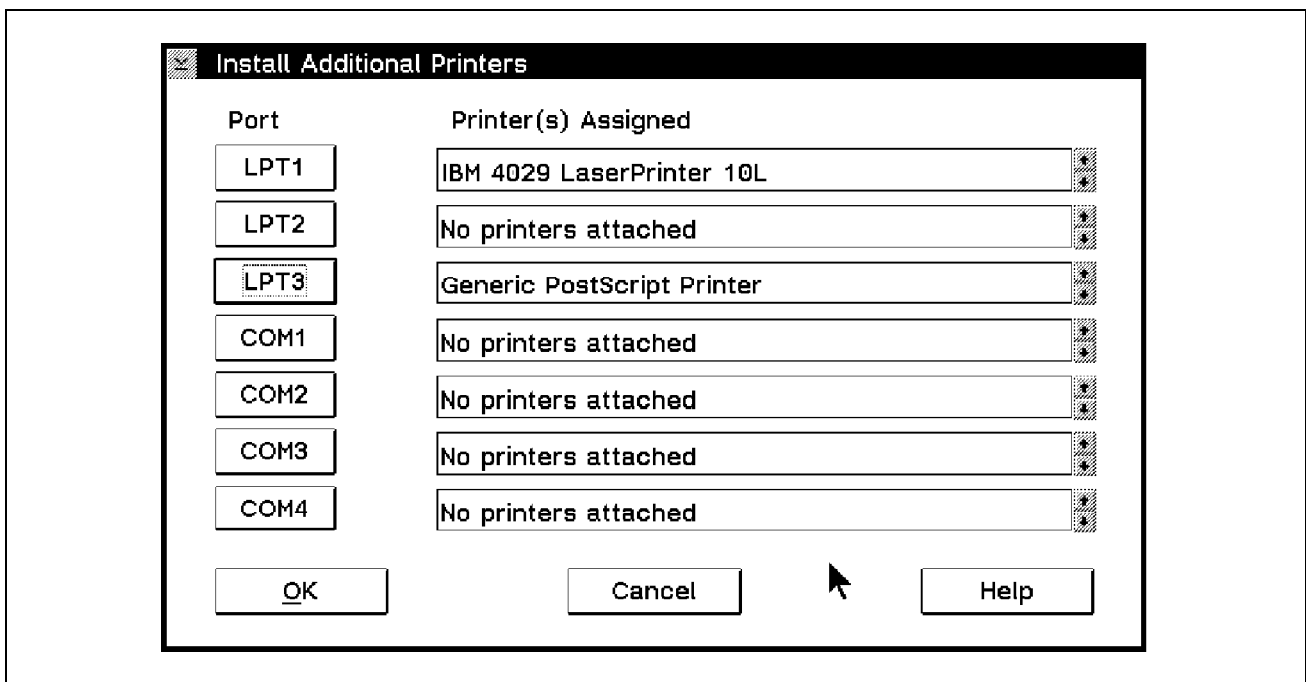

Figure 24. The Additional Printer Install Dialog
- Note:** If you want to install additional printers, click on the **Install Additional Printers** button. You can select the additional printer as well as the printer port to connect to (see Figure 24 on page 87).